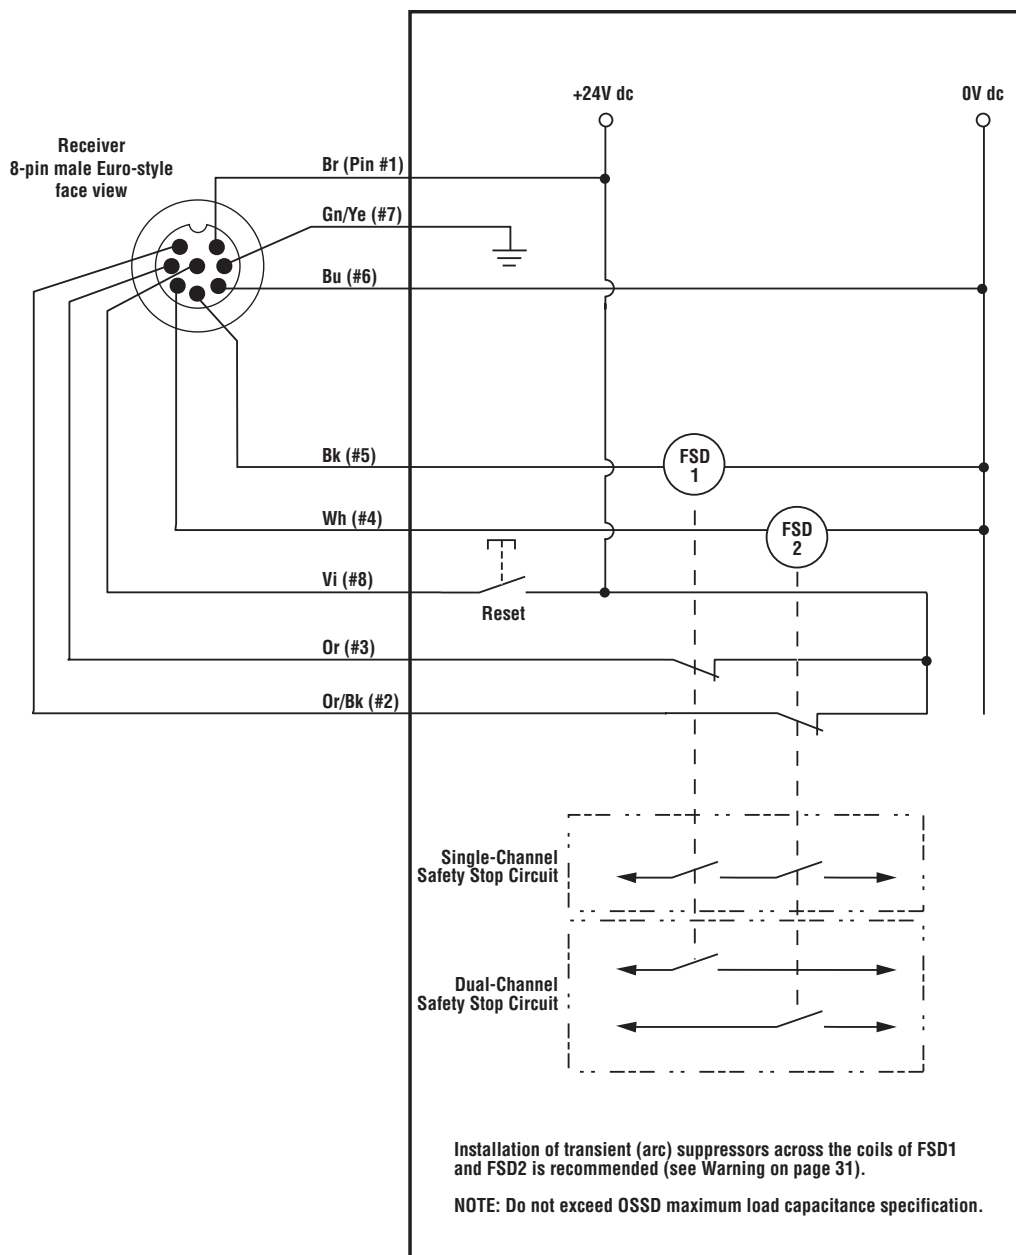

Figure 3-17. Generic hookup – FSDs (2-channel EDM, manual reset)
Final Switching Devices (FSDs) typically accomplish this when the OSSDs go to an OFF state. See Figure 3-17.
**External Device Monitoring:** It is strongly recommended that one normally closed, forced-guided monitoring contact of each FSD and MPCE be connected to EDM inputs (see Figures 3-17, 3-18, and 3-19). If this is done, proper operation of the MPCEs will be verified. Monitoring MPCE contacts is one method of maintaining control reliability.
If not connected previously, it is again strongly recommended that one normally closed, forced-guided monitoring contact of each FSD and MPCE be wired as shown in the monitoring circuit (see Figures 3-17, 3-18, and 3-19). If this is done, proper operation of the FSDs and MPCEs will be verified. Monitoring MPCE contacts is one method of maintaining control reliability. (See the Note Regarding External Device Monitoring on page 30).
- **Two-Channel Monitoring** is a separate connection of closed monitor contacts that are forced-guided (mechanically linked) from each device controlled by the EZ-SCREEN. The monitoring contacts should always change state (both open or both close) within 200 milliseconds of the corresponding OSSD state change (turning ON or OFF) or a Lockout will occur (see Diagnostics, Section 5.1). Refer to Figures 3-17 or 3-18 for 2-channel EDM hookup. Connect the monitor contacts as shown between +24V dc and EDM1 (pin 3) and between +24V dc and EDM2 (pin 2). Set the configuration DIP switch to E2, per Section 4.2.